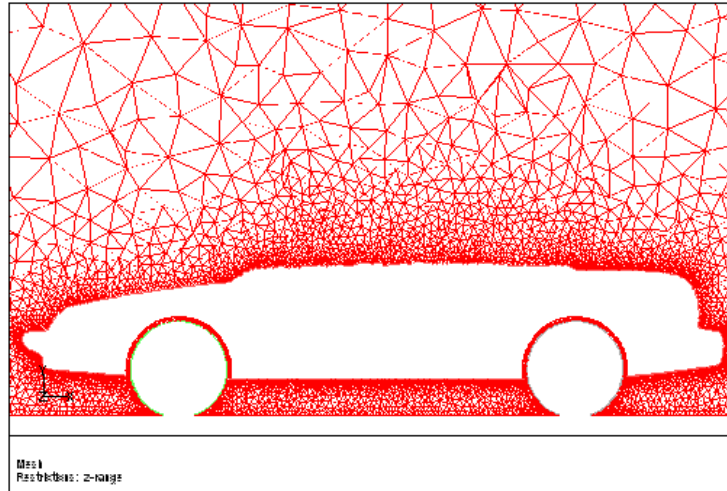

Figure 2.9: Slide of Cells at $Z = 0.38$
- (b) Display the mesh on a slide through the wheels ($z = 0.38$). See Figure 2.9.